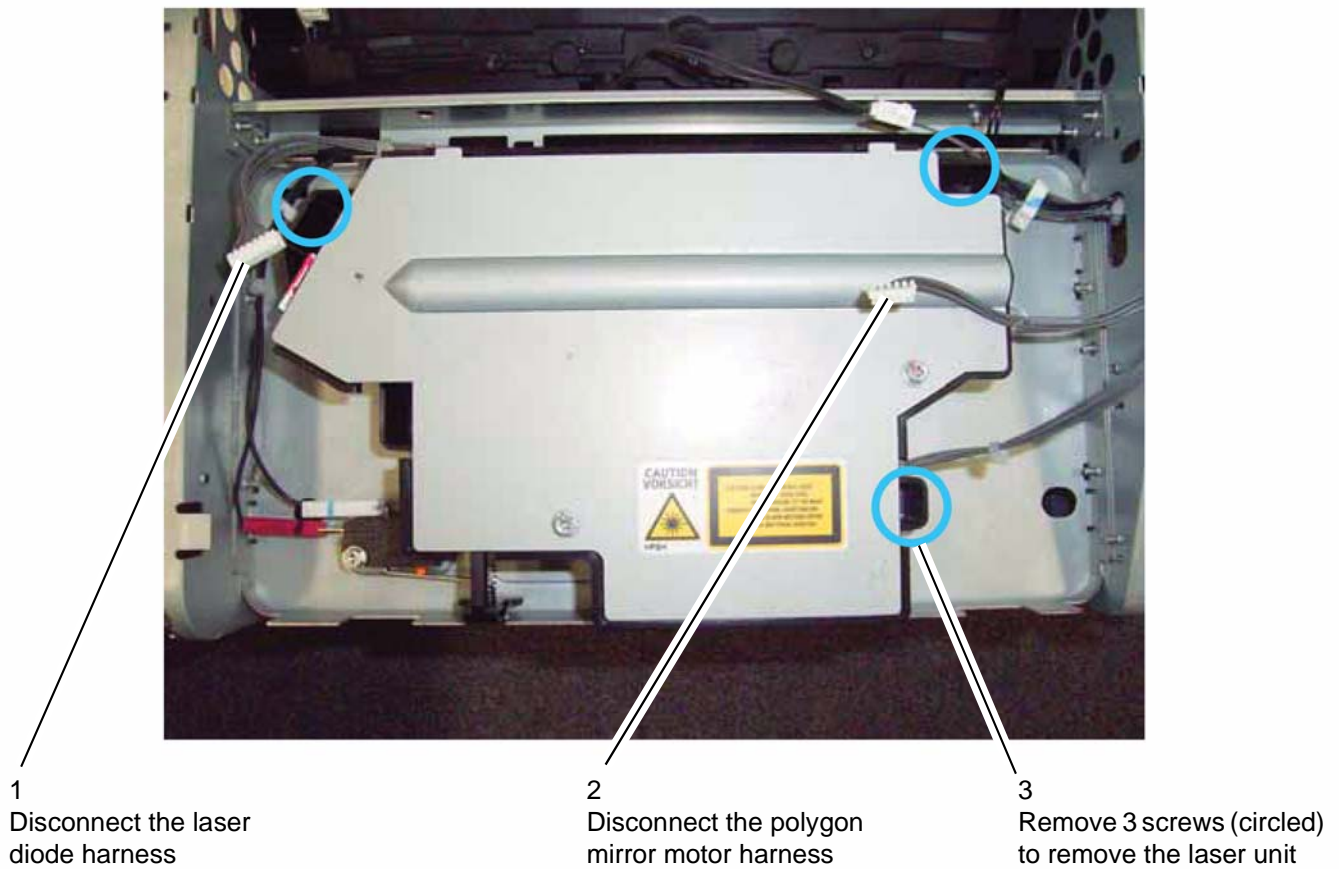

Figure 1
2. Remove the laser unit, Figure 1.